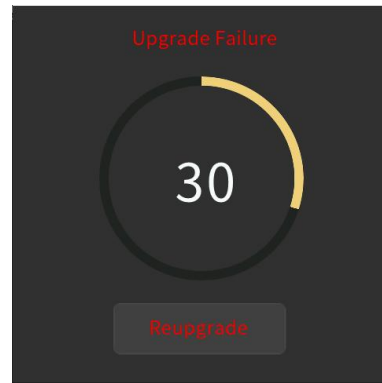

Fig.6.4
If upgrade failure, device interface as shown as Fig.6.4, please remove the SD card then insert again, click "Reupgrade" to continue upgrading.
①Only support to upgrade via MicroSD card with software package, not support with bus.
②Only support SDHC card and the format should be FAT32 (if the format is not FAT32, it need to be formatted as FAT32), and capacity not greater than 32GB.
③During updating process, the power cannot be cut off, the power failure may cause missing UI source files. If the device is voltage failure, restart the device then the it will note upgrade failure, as shown as Fig.6.4, please remove the SD card then insert again, click “Reupgrade” to continue upgrading.
④After the upgrade finished, it will display the corresponding UI interface, please refer to the above UI document to understand UI interface design better.
⑤After the upgrade finished, you can refer to product manual to understand more use details.